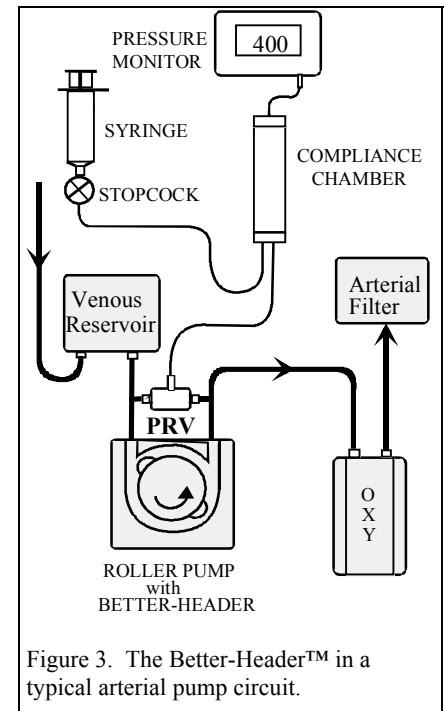

Figure 3. The Better-Header™ in a typical arterial pump circuit.
- 2) Place the Better-Header™ in the pump raceway. Ensure that the white side of the PRV faces away from the user so flow visualization through the valve is possible at all times. Refer to Figure 3 illustrating the Better-Header™ in a typical arterial pump circuit.